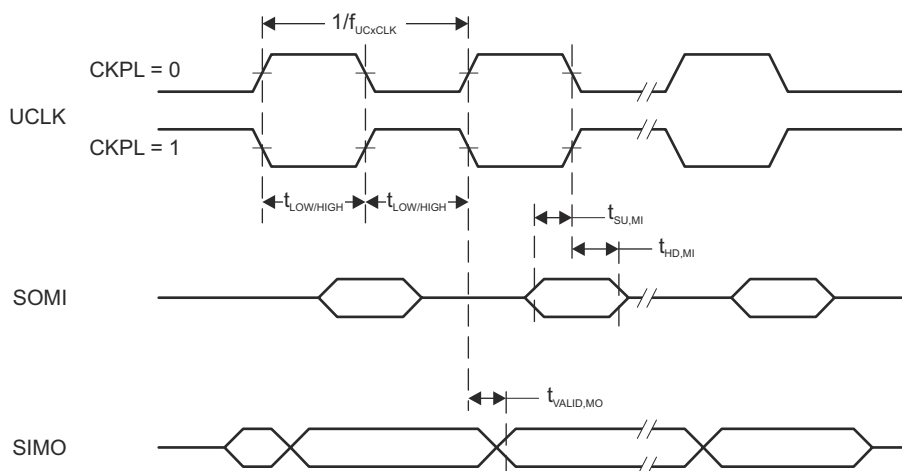
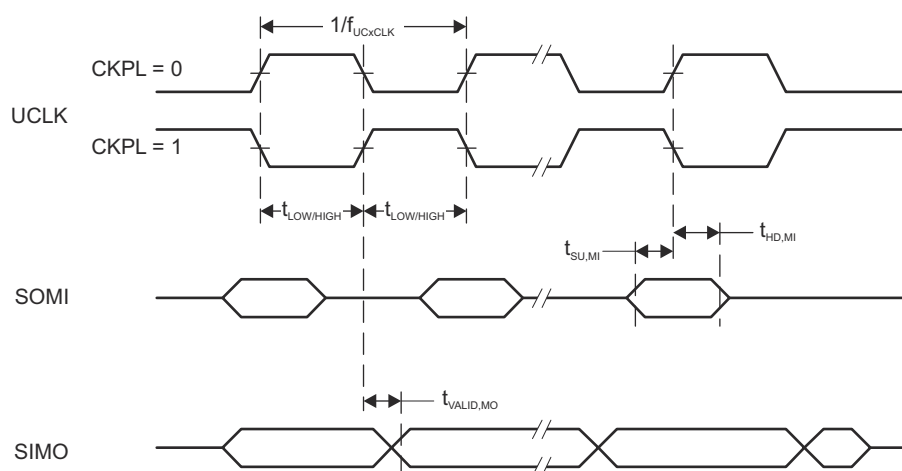

图 8-10. SPI Master Mode, CKPH = 0
图 8-11. SPI Master Mode, CKPH = 1
- (2) Specifies the time to drive the next valid data to the SIMO output after the output changing UCLK clock edge. See the timing diagrams in Fig 8-10 and Fig 8-11.
- (3) Specifies how long data on the SIMO output is valid after the output changing UCLK clock edge. Negative values indicate that the data on the SIMO output can become invalid before the output changing clock edge observed on UCLK. See the timing diagrams in Fig 8-10 and Fig 8-11.